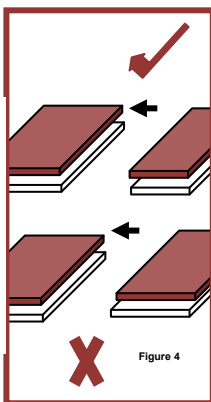

Figure 4
**6.** Start the second row with the cut off plank used at the end of the previous row if appropriate, or use a plank cut about 1/3 in length. The over-edge butts up to the first row plank. Start the third row with a full plank and continue to lay as above for the remaining rows. Always place cut edges against the wall and not next to other planks. (see Figure 4)